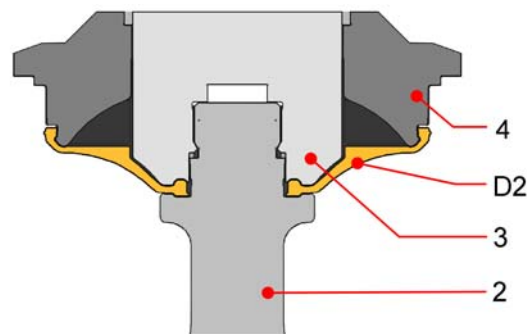

Fig. 3
During assembly, tie diaphragm (D2) carefully on lantern (4) and on the upper piston (3) (Fig. 3/Page 7). Assemble the thread connections "A" with removable screw retention (e.g. Loctite 243).